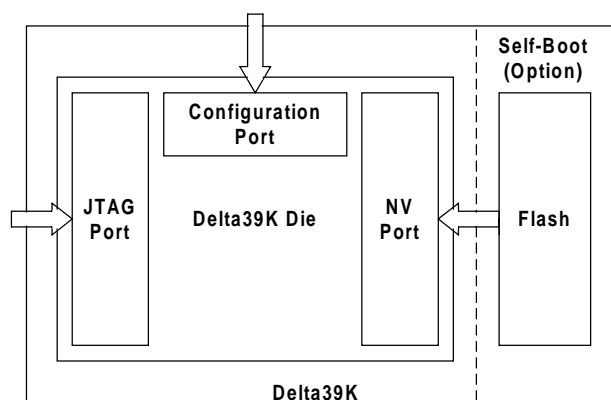

Figure 1. Configuration Paths into the Delta39K™
Delta39K devices can be configured in multiple ways (*Figure 1*). The bitstream can be sent through the JTAG port from a PC, through the Serial Configuration port from an external EEPROM, or through the Non-Volatile (NV) port from the internal Flash. For volatile Delta39K and Quantum38K, configuration through the internal Flash is obviously not available.